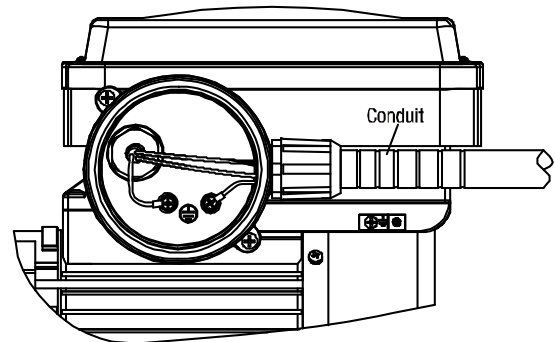

FIG. 4
- ☐ Install conduit to connector. (FIG.4)